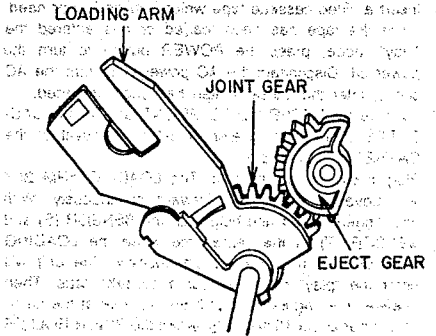

Fig. 3-3
- 2) Hold the LOADING ARM (T) and turn it 30 degrees clockwise, then pull out the shaft's left end from the bracket. Take special care when removing it to avoid damaging the JOINT and EJECT GEARS. (Refer Fig. 3-3).